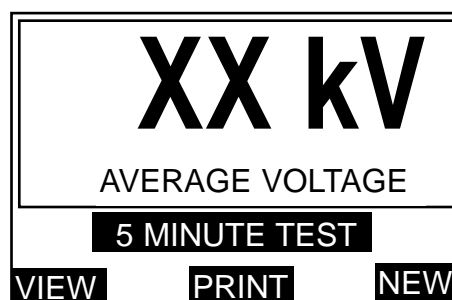

Figure 12. Average breakdown voltage display screen.
- When step (5) is finished the test voltage then begins to rise again as in step (3), this time for 'TEST 2', and the cycle of events repeats.
- Steps (3), (4), (5) and (6) are repeated so that the test voltage is applied for a third time. After the test voltage has been cut off on the third test, the display shows the average breakdown voltage value of the three tests in the sequence. The display appears similar to figure 12.
4. When the intermediate stand time has finished the test voltage begins to rise again as in step (2), this time for TEST 2, and the cycle of events repeats.
5. For this specification there are 5 consecutive tests. After the test voltage has been cut off on the last test, the display shows the average breakdown voltage value of the 5 tests in the sequence. The display appears similar to figure 12.
5. When the intermediate stir time has finished the test voltage begins to rise again as in step (3), this time for TEST 2, and the cycle of events repeats.
6. For this specification there are 5 consecutive tests. After the test voltage has been cut off on the last test, the display shows the average breakdown voltage value from the 5 tests in the sequence. The display appears similar to figure 12.